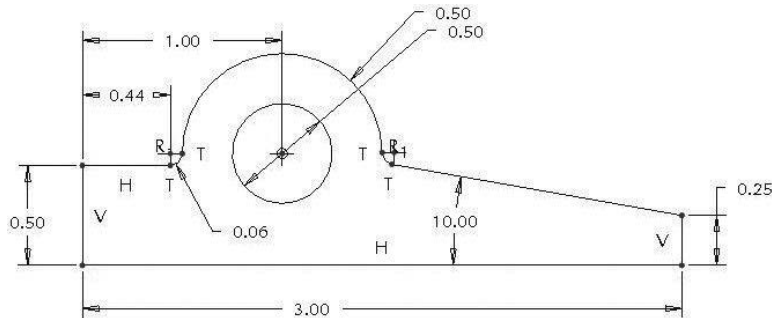

Figure 3-42 Angle Bearing
Step 50: Draw angle bearing side view (Figure 3-42).